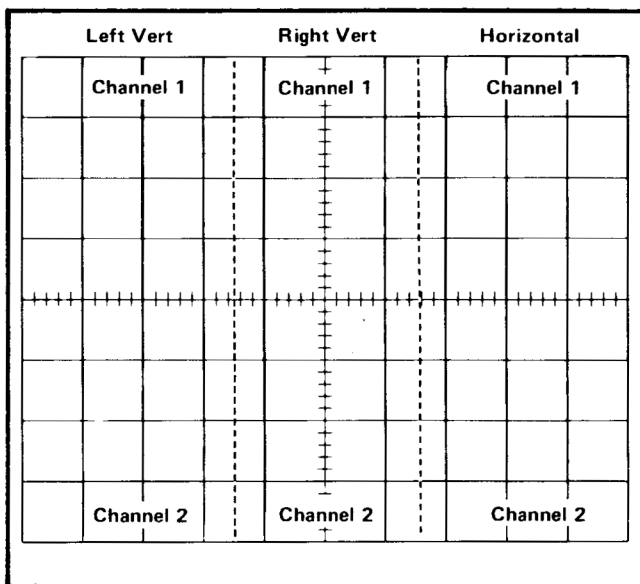
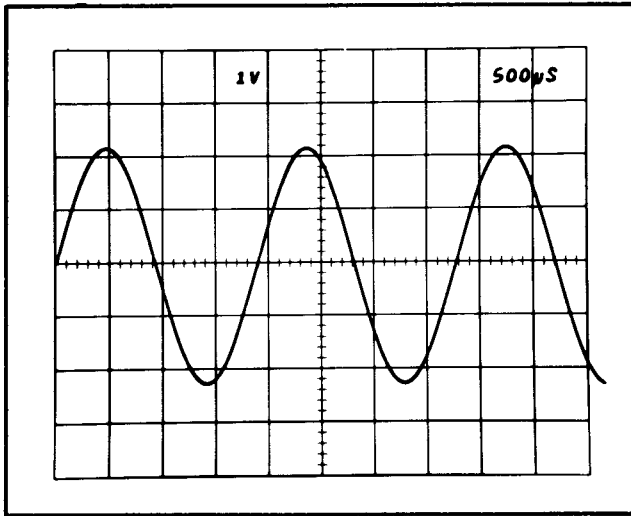

Fig. 3-25. Location of readout words on the CRT identifying the originating plug-in unit and channel (one complete frame shown, simulated readout).
Fig. 3-27. Typical readout display where only channel 1 of the Right Vertical and Horizontal units is displayed.
**Frame**—A frame is a display of all words for a given operating mode and plug-in combination. Up to six words can be displayed in one frame. Fig. 3-25 shows one complete frame (simulated readout) and the position at which each of the six words is displayed.
fixed and is directly related to the plug-in unit from which it originated. Fig. 3-25 shows the area of the graticule where the readout from each plug-in unit is displayed. Notice that channel 1 of each plug-in unit is displayed within the top division of the CRT and channel 2 is displayed directly below within the bottom division. Fig. 3-27 shows a typical display.
The Format Generator stage provides the output signals to the vertical and horizontal deflection systems of the instrument to produce the character display. The binary Channel Address No. 2 code from the Channel Counter stage is connected to this stage so that the display from each channel is positioned to the area of the CRT which is associated with the plug-in and channel originating the word (see Fig. 3-25). The positioning current or decimal point location current generated by the Decimal Point Logic and Character Position Counter stage is added to the horizontal (X) signal at the input to the Format Generator stage to provide horizontal positioning of the characters within each word. The X- and Y-output signals are connected to the Horizontal Amplifier and Vertical Amplifier through the Horizontal Output and Vertical Output stages respectively.